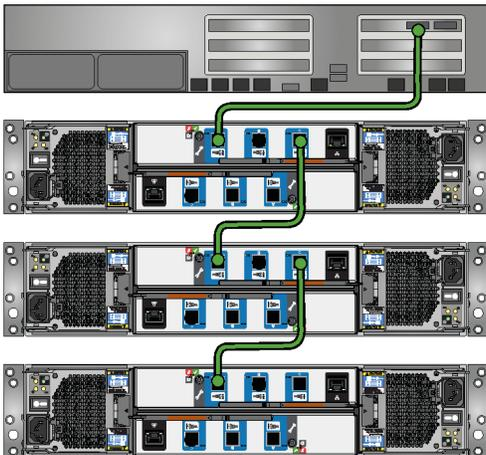
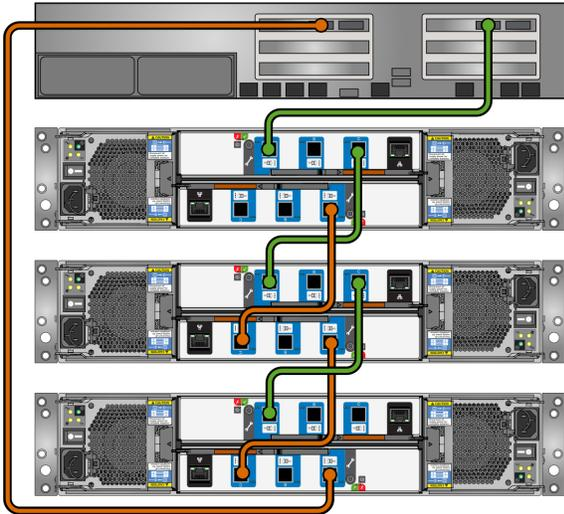

Figure 44. Single host with one host adapter- Multiple 2U Enclosures
Figure 45. Single host with two host adapters- Multiple 2U Enclosures
- One host can access the drives in the JBOD ESMs at any time. See Figure 44 “Single host with one host adapter- Multiple 2U Enclosures” on page 42 and Figure 45 “Single host with two host adapters- Multiple 2U Enclosures” on page 43.
- One or more non-RAID adapter (HBA) in the host can access the drives in the JBOD ESMs. Clustering is supported in this condition. See Figure 45 “Single host with two host adapters- Multiple 2U Enclosures” on page 43.